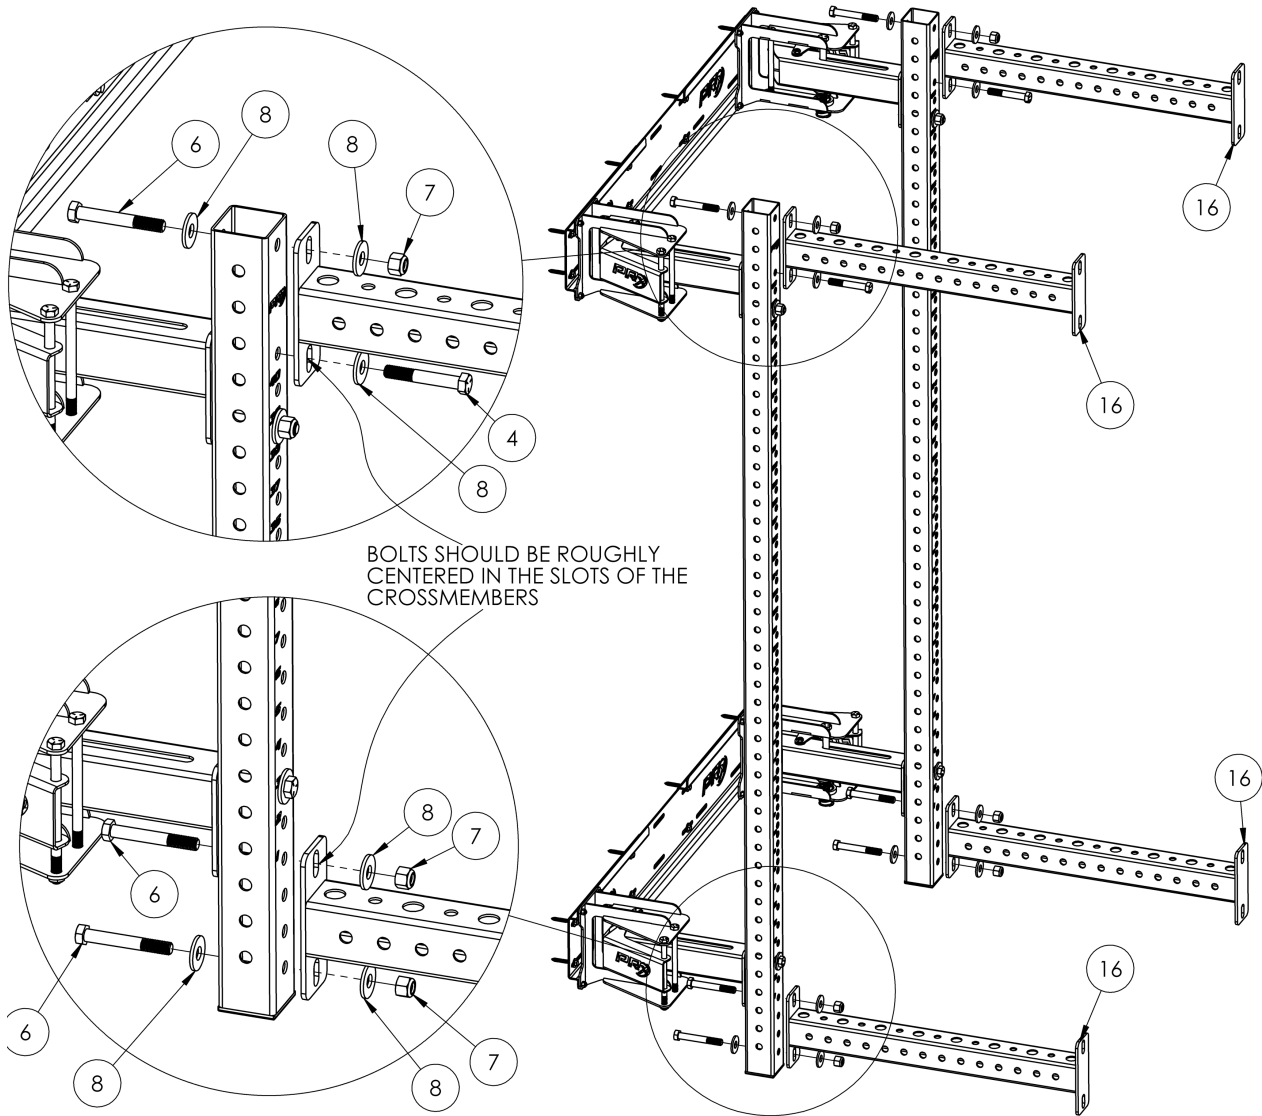

Figure 5: Attaching the crossmembers
1. With the help of another person, bolt on the four crossmembers (16) following **Figure 5** closely.
2. Install the upper crossmembers by inserting the 5/8" x 4" hex bolt (4) and 5/8" flat washer (8) from the crossmember side into the hinge. This bolt only needs one washer.
3. Then insert the 5/8" x 4-1/2" hex bolt (6) with two 5/8" flat washers (8) and nut (7) through the back side of the upright.
4. Install the lower crossmember by inserting two 5/8" x 4-1/2" hex bolts (6) with 5/8" flat washers (8) and 5/8" lock nuts (7) through the back side of the upright. The top bolt should also connect through the hinge. This bolt only needs one washer.